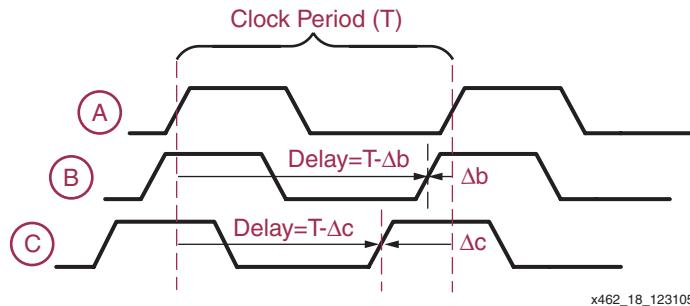

Figure 3-17: Delaying a Fixed Frequency Clock Appears to Predict the Future
Because it is impossible to insert a negative delay to counteract the clock skew, the DCM actually *delays* the output clocks enough so that they appear to be advanced in time. How is this accomplished? The clock cycle is repetitive and has a fixed period, T. As shown in Figure 3-17, the clock at Point (B) appears to be advanced in time by the delay Δb . In reality however, the clock is delayed by $(T - \Delta b)$. Similarly, the clock at Point (C) is delayed by $(T - \Delta c)$.